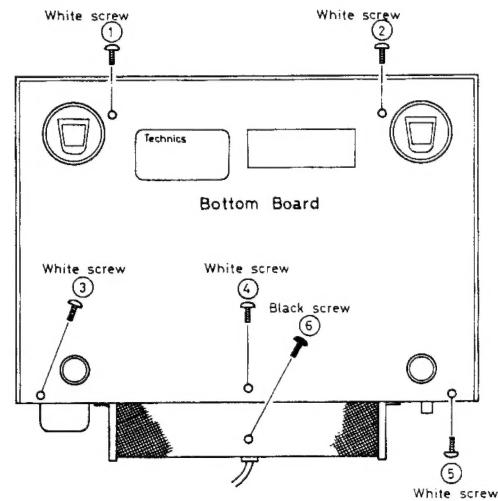

Fig. 1
1. Turn the set upside down and remove 5 setscrews (①~⑥ in Fig. 1) on the bottom board.